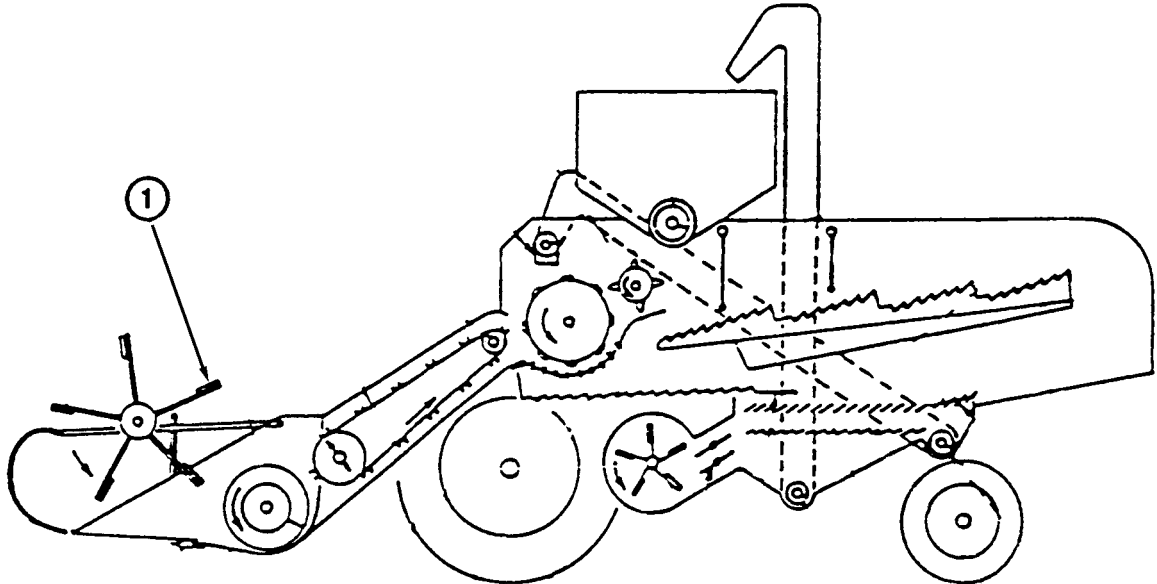

FIG. 1
- (a) Figure 1 shows a diagram of the basic functional components of a typical self-propelled header harvester.
- (i) Use the numbers from the table, and arrows, to indicate these parts on the diagram in Figure 1.